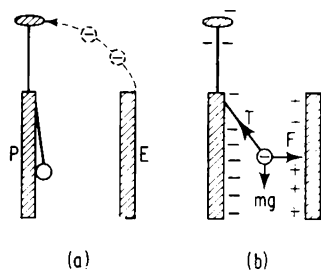

Fig. 23
Imagine two vertical parallel plates (Fig. 23 (a)). A light-weight conducting sphere is attached by a conducting thread to one plate (P). If electrons are transferred from E to P, the plate P and the sphere will become negatively charged and the sphere will be attracted to plate E (Fig. 23 (b)). The sphere will move towards E